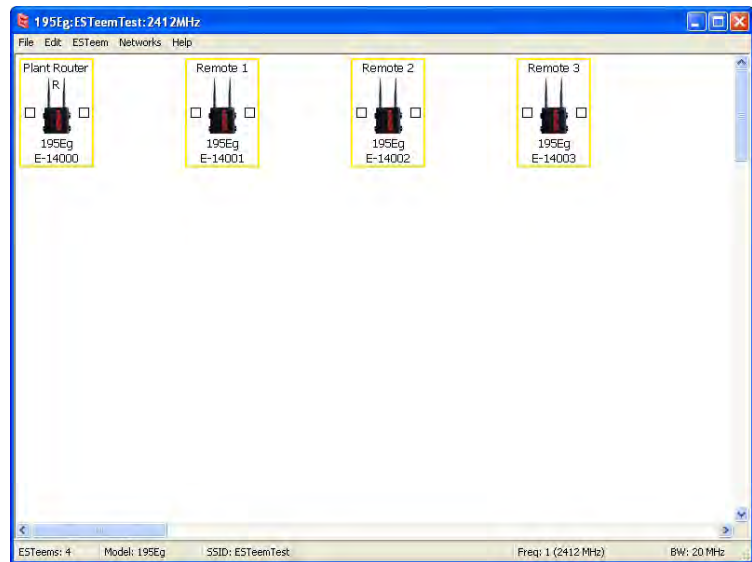

Figure 18: Router Mode Example Modems
1. Using the above procedure for adding ESTeem Model 210s, add the four ESTeem 210s for this example and rename by location. Your layout should appear like Figure 18.